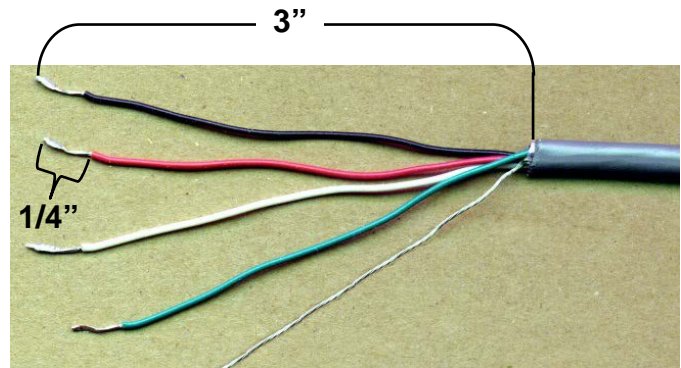

Figure No. 13
4. Referring to Figure No. 13, remove 3 inches of the outer insulation jacket of the load cell cable.